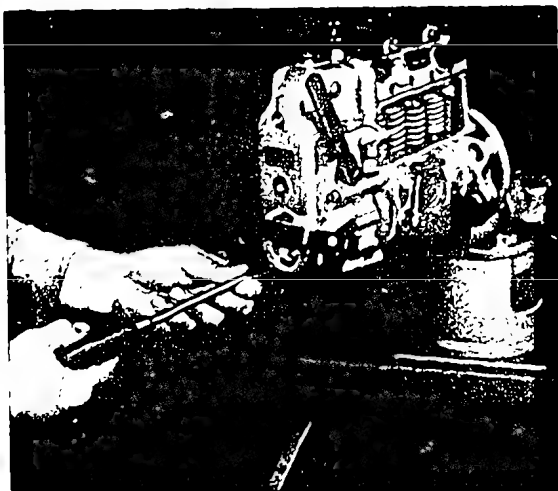

Fig. 5 Unscrewing the governor cover bolts
2.2. 2. Release bolts (150) securing governor cover (30) (Fig. 5) and remove spring washers (Atecq washers) (152). On certain pumps equipped with standard spring washers (with sharp edge) a plain washer protecting the cover is also used.